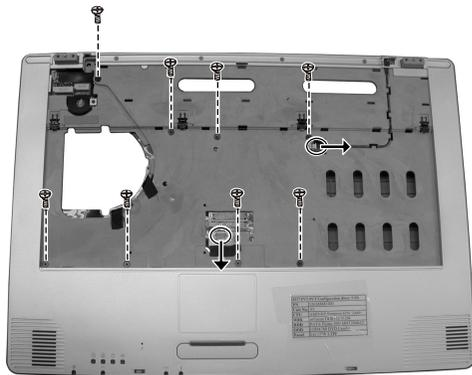

Figure 2-24 Disconnect the two cables and remove the eight screws
2. Disconnect the touch pad's cable and the cover switch's cable from the system board, then remove the eight screws fastening the top cover. (Figure 2-24)